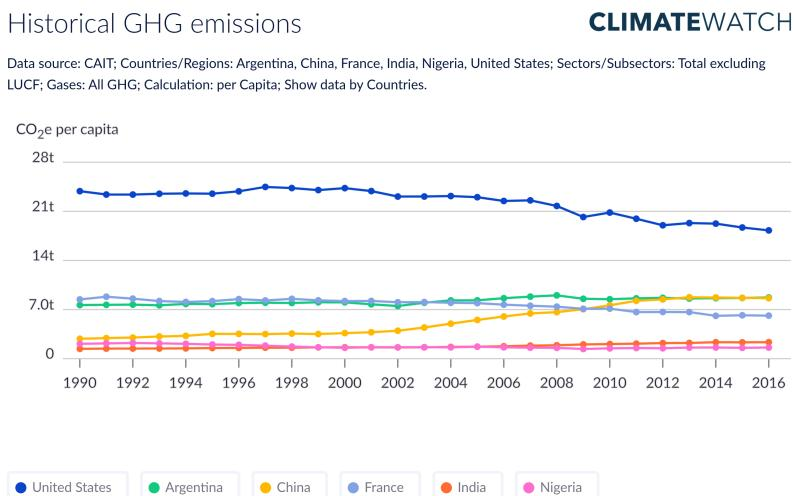

Figure 1.5: CO₂e emissions *per capita* (not including LUCF) for several countries. Figure from www.climatewatch.org/ghg-emissions.
The *per capita* emissions of the US and five other countries are shown in Fig. 1.5. Note that, of the countries shown, the US *per capita* emissions are by far the largest. China's *per capita* emissions are roughly half that of the US. The *per capita* emissions of India and Nigeria are relatively small—just 2.6 and 1.6 tons of CO₂e per person, respectively.
2. Reproduce Fig. 1.5.